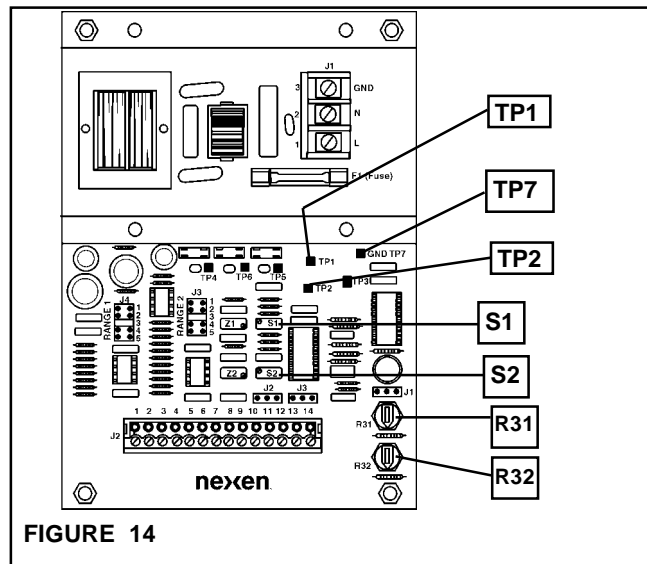

FIGURE 14
2. Connect a voltmeter to **TP7 (COM)** and **TP1** (See Figure 14).
3. Rotate **S1** clockwise to _____ VDC, increasing the reading at **TP1** (Example: Maximum tension = 100 Lbs. with a 50 Lb. weight, adjust the output for 5.0VDC) (See Figure 14).